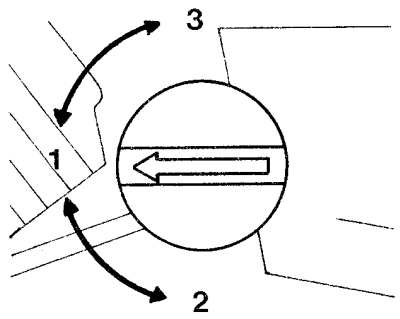
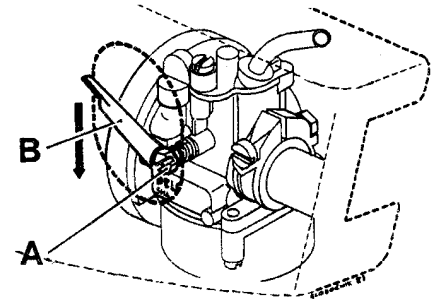

Fig. 2
Fig. 3
Turn fuel valve Fig.2 to OPEN (ON) position, if engine is cold press the choke lever down (Fig.3/B) and simultaneously add one third of throttle opening, operate kick starter lever. When engine starts, close throttle and wait 10 to 20 seconds before quickly opening and shutting throttle twist-grip, this will automatically turn choke off. When engine is warm, do not operate choke.